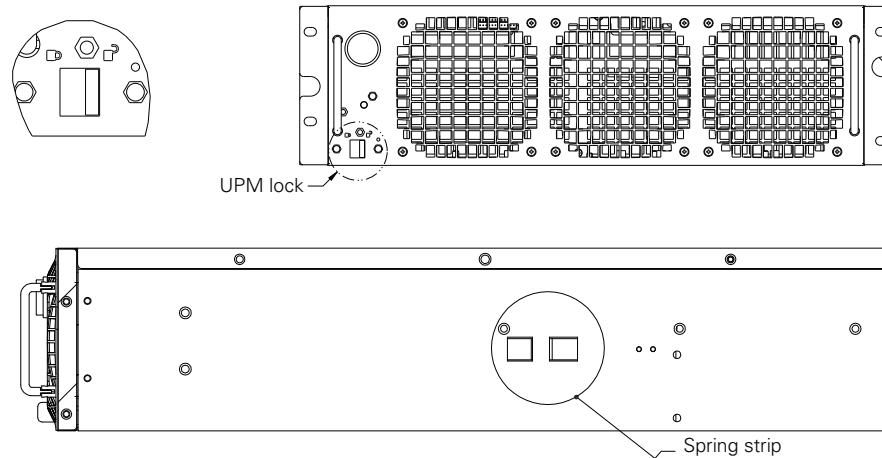

Figure 6-7: Removing the UPS Module Online
1. set the position lock located on the front panel of the module to "OFF" (see Figure. 6-7) and Set the input breaker of the UPS module rear to OFF position.